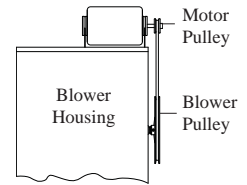

Fig. 3
- **Motor pulley.** Install the motor pulley so that it aligns with the blower pulley (see Fig. 3) and tighten set screw. See page 3 for instructions on adjusting pulley.